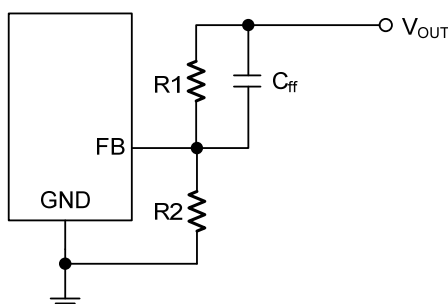

Figure. 1 Output Voltage Setting Circuits
Figure 1 shows the output voltage setting circuit of **UD182013T**. The external resistance voltage divider can set the output voltage according to equation (1):